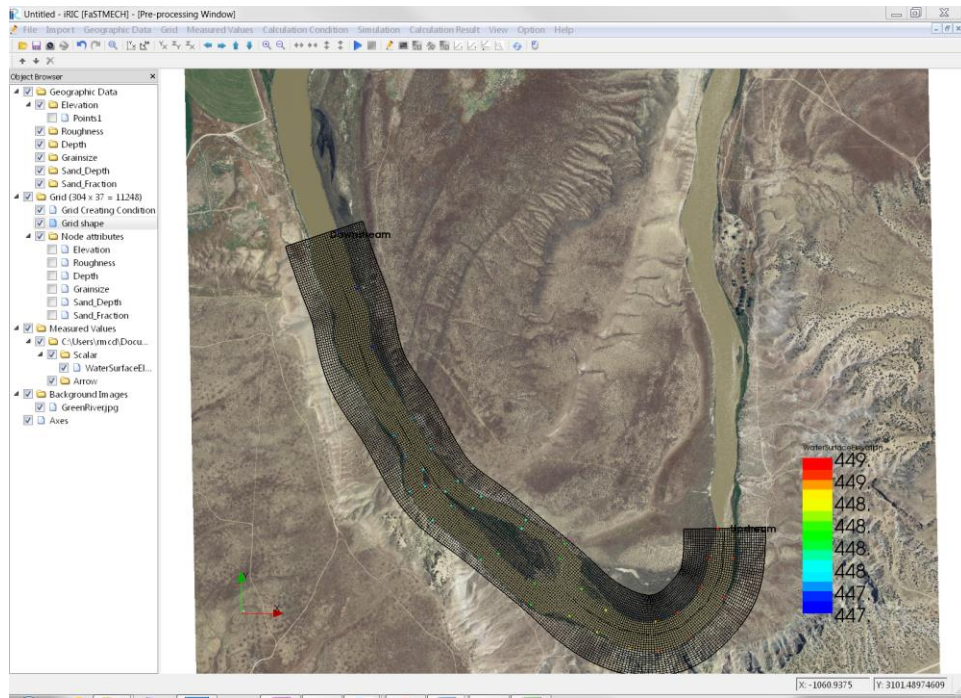

Figure 9. Edited grid location.
- Your result should look similar to Figure 9.